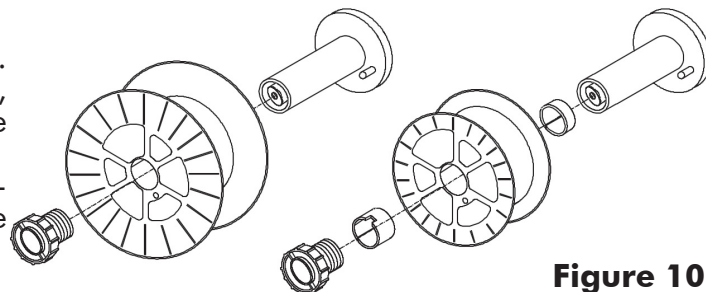

Figure 10
- If necessary for the type of wire spool being loaded, install also the spacers as shown on the Figure 10.